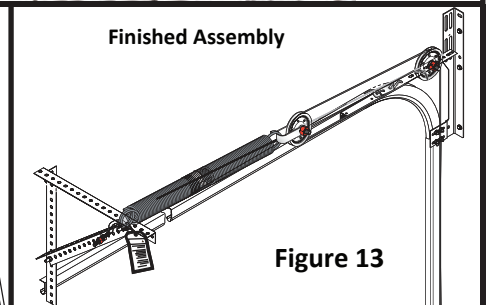

Figure 13
Step 11: Attach the Cable Adjustment Clip to the "S" Hook (Fig 11). Be sure to pull out all of the slack in the cable at the Cable Adjustment Clip so the Extension Spring hangs near horizontally (Fig 13). Loop any additional cable to keep it out of the way (Fig 12)
Step 12: Attach the Cable Adjustment Clip to the "S" Hook (Fig 11 & 14). Be sure to pull out all of the slack in the cable at the Cable Adjustment Clip so the Extension Spring hangs near horizontally (Fig 14 & 15). Loop any additional cable to keep it out of the way (Fig 13)